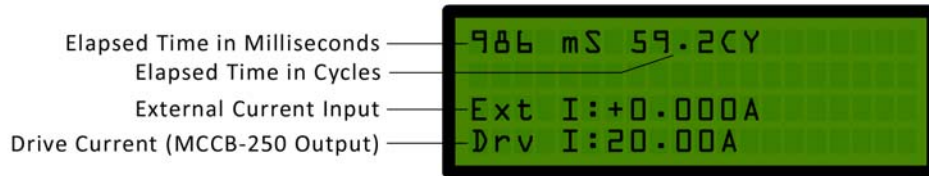

Figure 2. Typical MCCB-250 Test Results Screen
The MCCB-250's built-in time/cycle counter can be used to time events in milliseconds and cycles. The elapsed time is displayed on the LCD screen along with the test current after a test is completed. A typical test results screen is shown in Figure 2. The timer is turned on when the ON+TMR mode is selected.
The MCCB-250's **[EXT CURRENT]** input serves as a built-in amper meter that can be used to monitor an AC current. This current is isolated, and the maximum input current is 10 amperes. A typical application for this feature is to measure a current transformer (CT) current ratio. The MCCB-250 can be used to output a current to the CT primary input. The CT secondary output is then connected to the MCCB-250's **[EXT CURRENT]** input. Both the MCCB-250 output current and the CT secondary current are displayed on the LCD screen (see Figure 2). The user can use the displayed values to quickly calculate the CT current ratio manually.